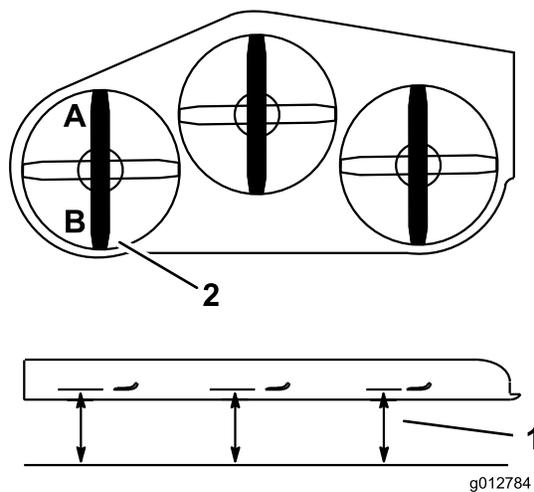

Figure 82
2. Measure the left blade at the **A** location, from a level surface to the cutting edge of the blade tip and record this measurement (Figure 82).
3. Measure the left blade at the **B** location, from a level surface to the cutting edge of the blade tip and record this measurement (Figure 82).
4. The mower blade should be a 1/4 to 3/8 inch (6 to 10 mm) lower at position **A** than at position **B** (Figure 82). If it is not correct, proceed to the following steps.